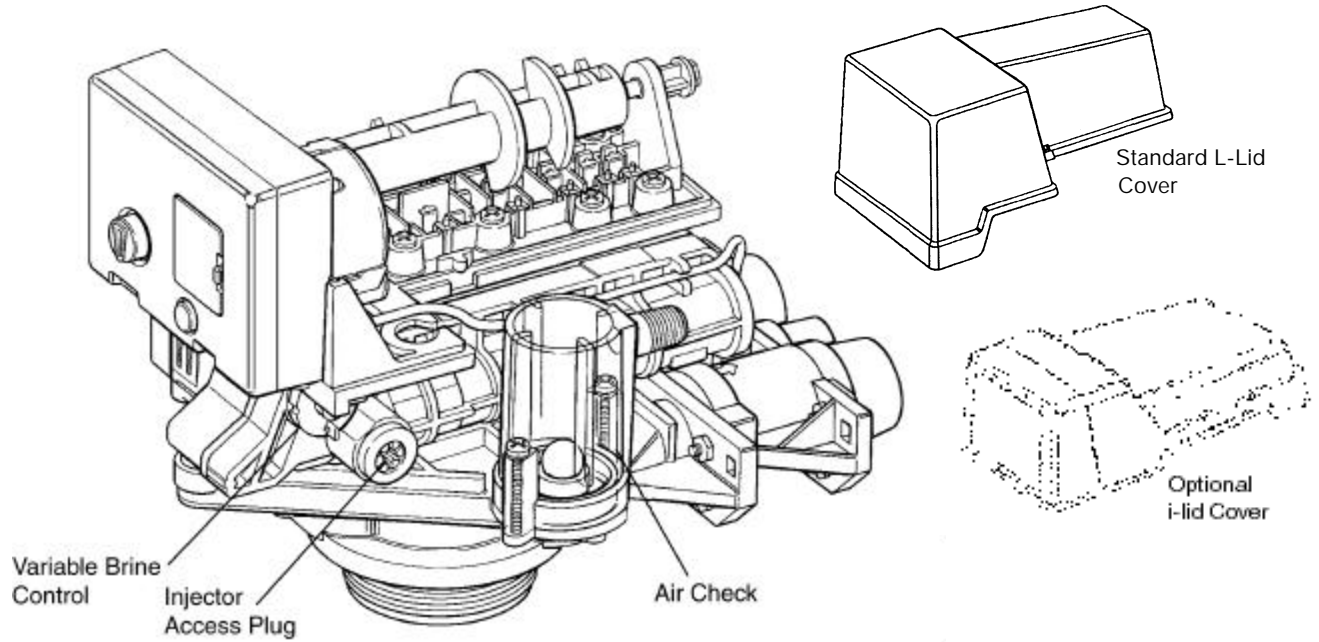

Figure 1
- B. Carefully advance pointer knob **COUNTERCLOCKWISE** to center of **FAST RINSE/REFILL** position and hold there until air check (Figure 1) fills with water and water starts to flow through brine line into brine tank. Do not run for more than two minutes.